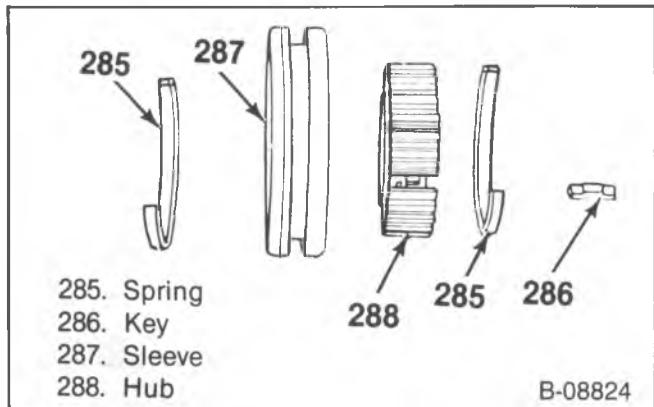

Figure 14—Synchronizer Components
8. 3-4 synchronizer (205), (figure 14).